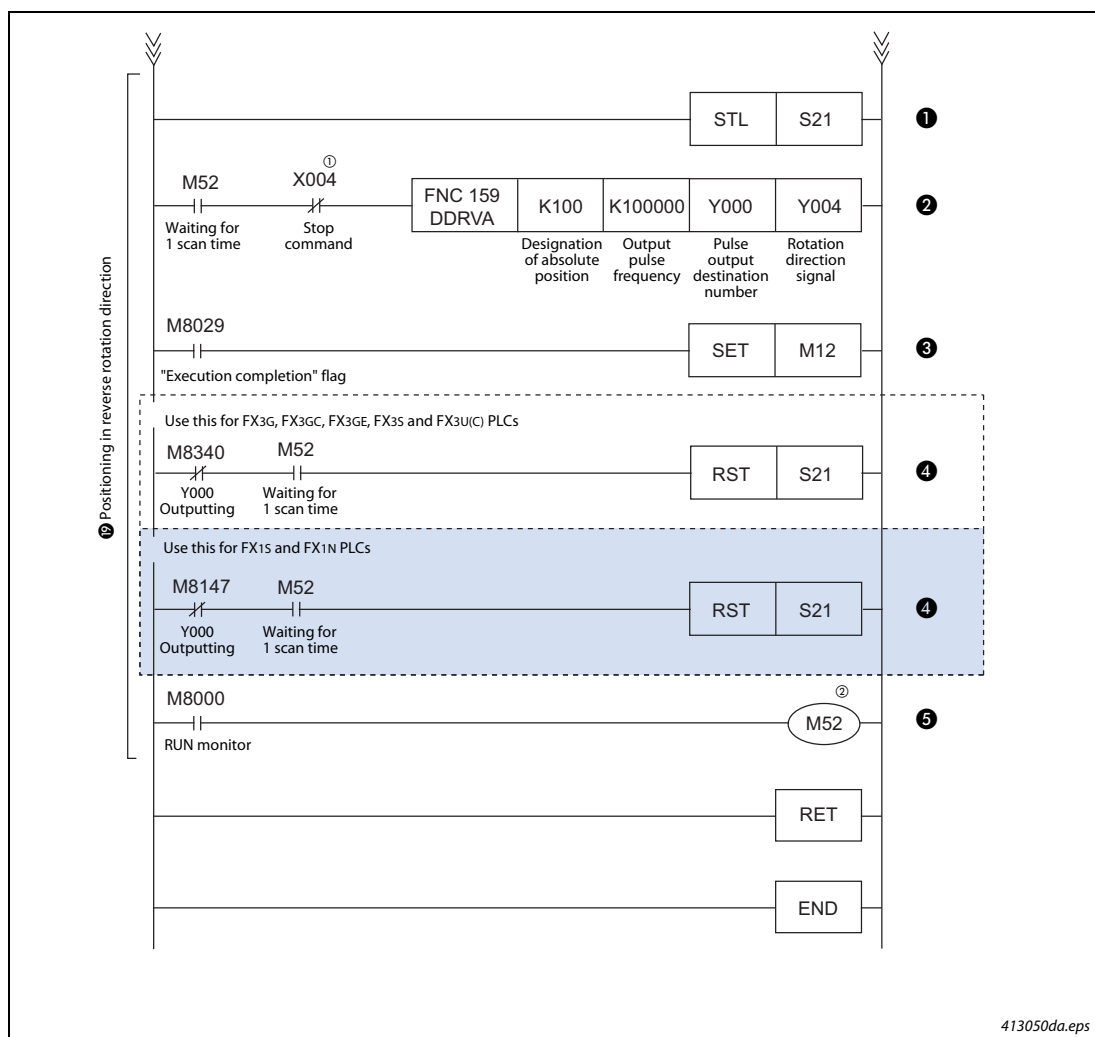

Fig. 4-6: Program example (4)
- ③ See marker 19 in program fig. 4-6 (4).
Tab. 4-9: Description of the program example in fig. 4-6